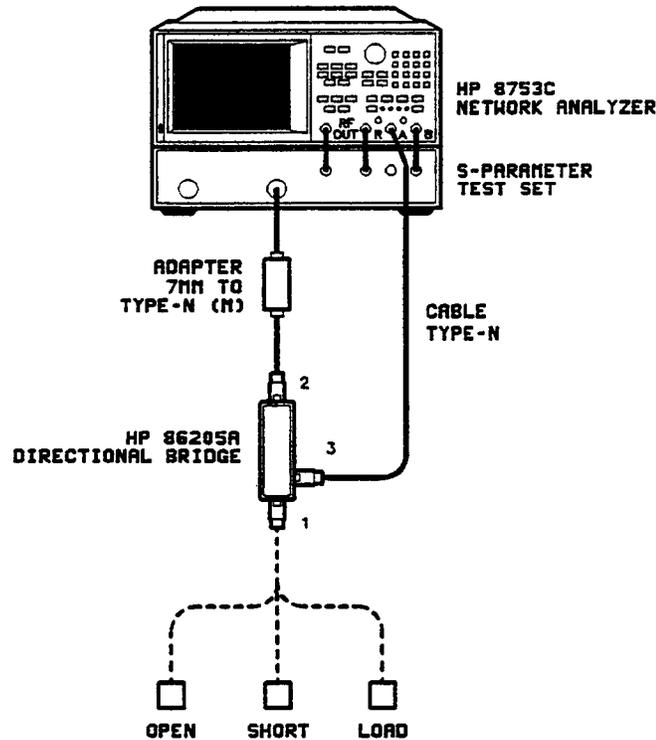

Figure 3-8. Equipment Setup for S22 1-Port Measurement Calibration
6. When prompted, connect the calibration devices to port 1 of the bridge as shown in Figure 3-8 (measure the load last).